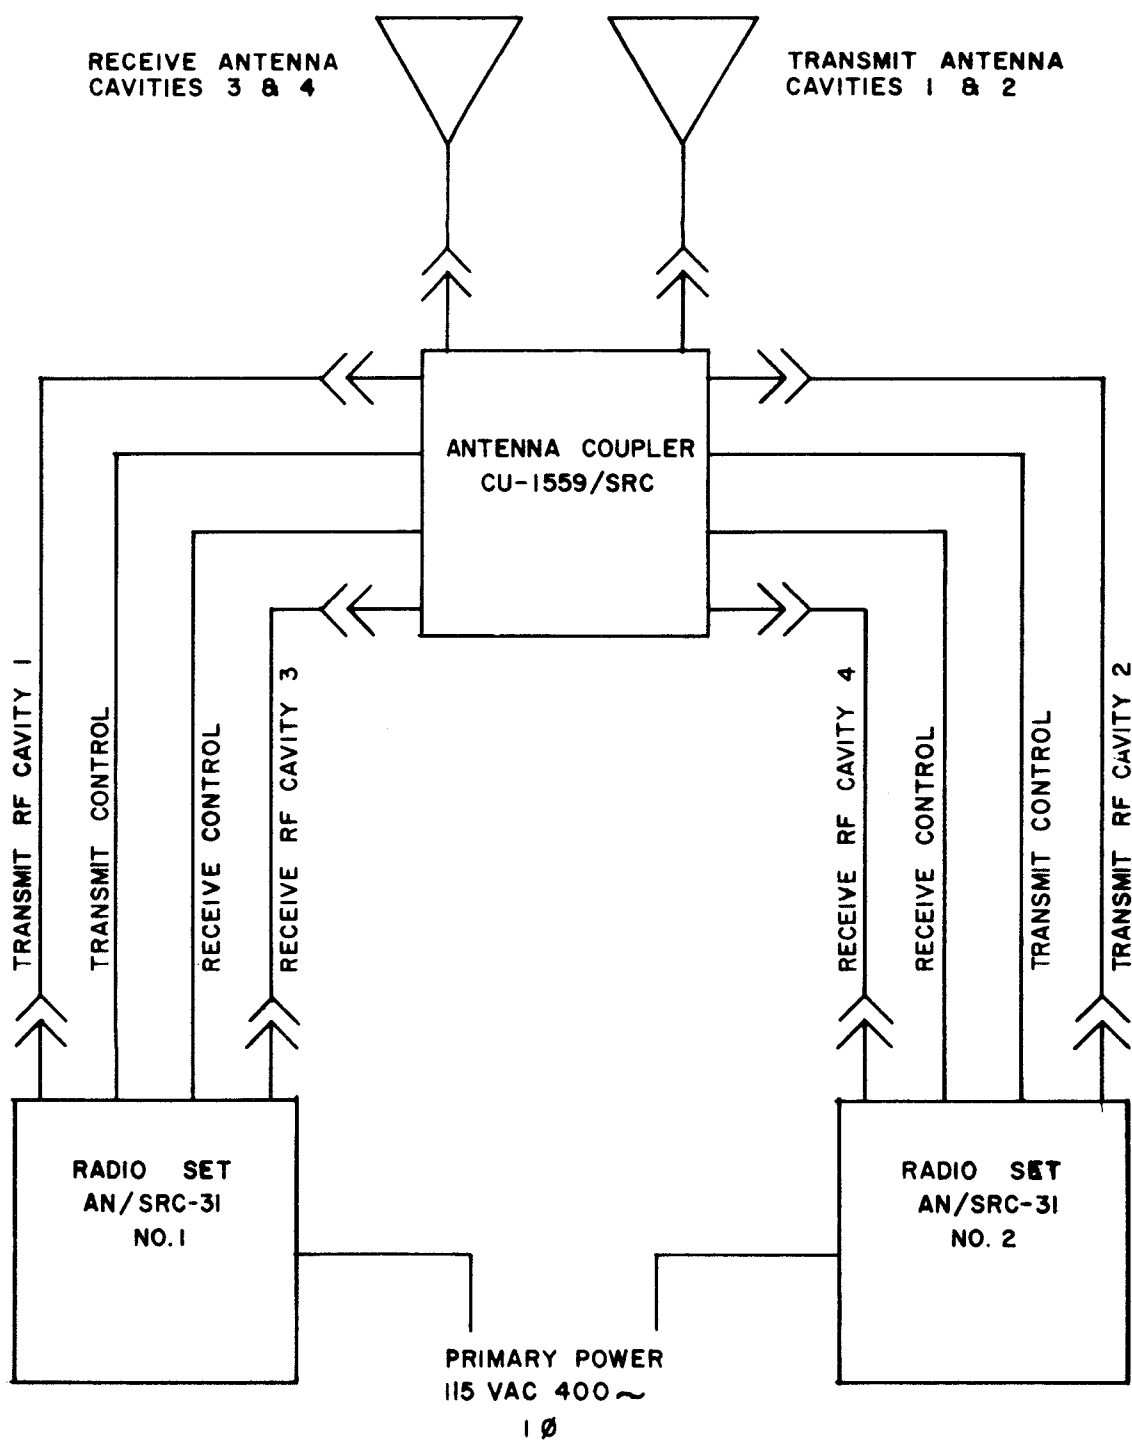

Figure 2-11 Antenna Coupler CU-1559/SRC Interconnection Diagram
- c. INTERCONNECTION CABLING DIAGRAM. - See Figure 2-11.